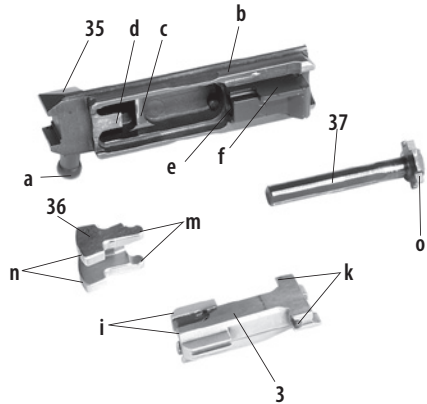
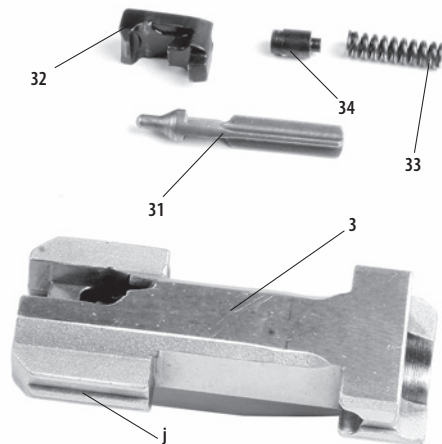
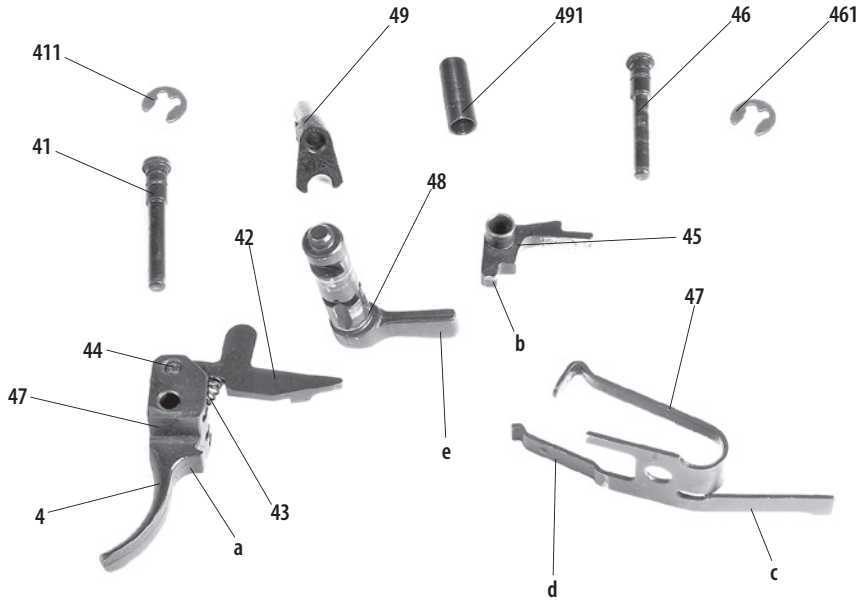

Fig. 13 **Bolt assembly**
Fig. 14 **Bolt /disassembled/**
Fig. 17 *The trigger mechanism* /disassembled/
**Bolt carrier 35** (Fig. 13) actuates the bolt, the locking piece and the disconnecter. The front wall of the bolt carrier is provided with a recess against which the bottom part of the piston strikes at the moment of firing. On the right-hand side of the bolt carrier is cocking lever a which is designed for hand-operated cocking of the bolt. Both sides of the bolt carrier are provided with guide grooves b which are interrupted at about the half way point by a recess whose shape corresponds to the corresponding lugs in the receiver. This recess is intended for inserting the bolt carrier in the receiver and for taking it out again. The rear wall of the bolt carrier is provided with three longitudinal openings. The top opening is made in order to house the return spring while the other two openings are designed to lower the weight of the bolt carrier.
**Locking piece 36** (Fig. 13) ensures the proper locking of the cartridge chamber. It is of horse-shoe shape; both arms of the
**Striker 37** (Fig. 13) strikes against the firing pin. It is of a hollow cylinder shape closed at its front end by a smooth front wall coming into contact with the firing pin. The rear open end has a head provided with grooves by which the striker is guided along the bars in the receiver. The striker head is elongated downwards, thus forming a nose *o*. The cylindrical part of the striker is relieved along the periphery by means of six longitudinal grooves. The groove on the left-hand side of the striker is closed on its front side and is elongated backwards as far as the striker head. Along the groove is guided the projection of the bolt carrier. The projection prevents the striker from falling out of the bolt carrier. This closed groove is joined with the neighboring longitudinal groove by means of a cross groove which enables the projection of the bolt carrier to pass to the closed groove. Striker spring 382 (Fig. 17) is inserted with its one end into the cylindrical cavity of the striker.
**Bolt 3** (Fig. 14) is provided in its front wall with a bed with a centric opening for the cartridge base. Moving free in this opening is firing pin 31 (Fig. 14). Extractor 32 with its claw reaches the edge of the cartridge case bed. The bottom edge of the cartridge base bed is bound by ramming lugs *i* (Fig. 13) which push the cartridges out from the magazine into the cartridge chamber. The ejector passes through the groove between these ramming lugs when the bolt is moving backwards. The recess on the right-hand face wall forms a stop for the bolt catch. The bolt is guided in the carrier by grooves *j* which are interrupted on both sides of the bolt by the recess intended for the locking piece (Fig. 13). The bolt is provided with an opening for the striker at the back.
**Firing pin 31** (Fig. 14) ignites the cartridge primer. It is mounted in the body of the bolt. The firing pin is prevented from falling out by the extractor bottom part which reaches the groove in the firing pin and thus also limits the return motion of the firing pin. The firing pin forward motion is limited by the conical surface of the firing pin which bears against the corresponding
**Extractor 32** (Fig. 14) extracts the fired cartridge case from the cartridge chamber by means of a claw which, pressed by extractor spring 33, snaps into the groove of the base of the cartridge case. The extractor spring is seated in the cavity of the bolt and presses against stay 34 which in turn actuates the extractor.